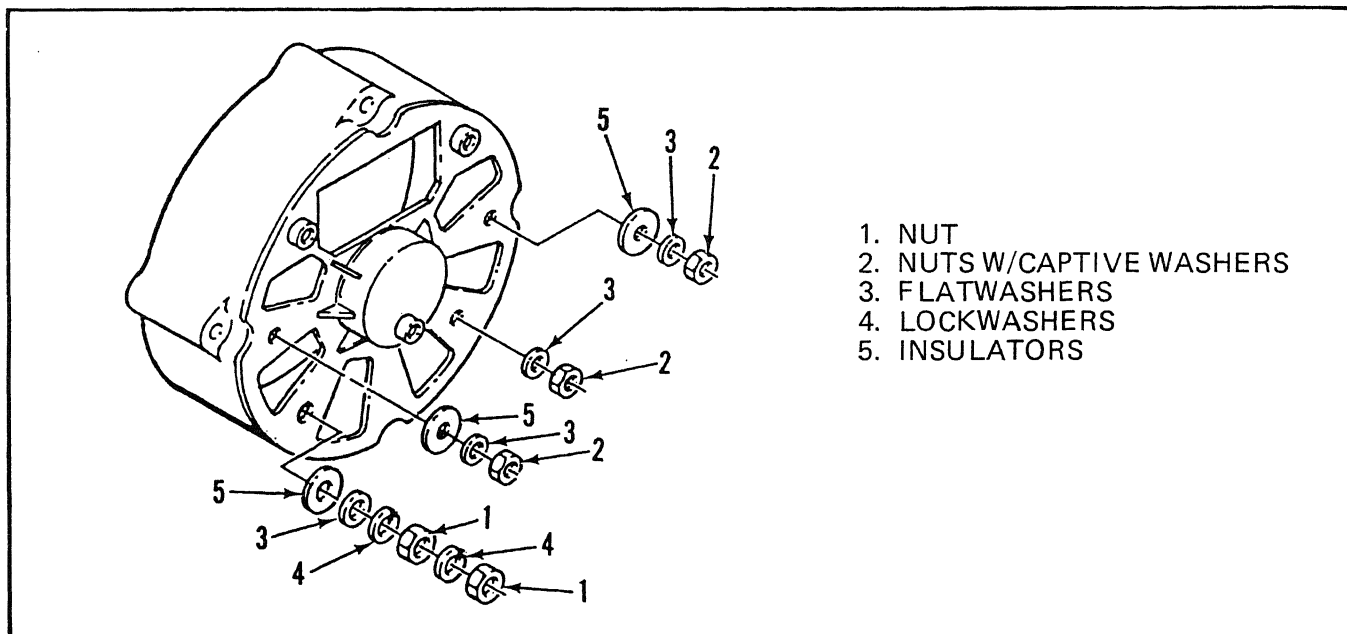

Figure 5-28.9 Stator Removal
- (6) Apply prying pressure at several points around the stator to extract rotor and front housing as an assembly. Do not burr the stator core which would make reassembly difficult.
- (7) Place the open end of the stator on a clean work surface, free of metal chips that could damage the stator windings. Remove all locknuts, lockwashers, flatwashers and insulators from the diode terminal studs, Figure 5-28.9.